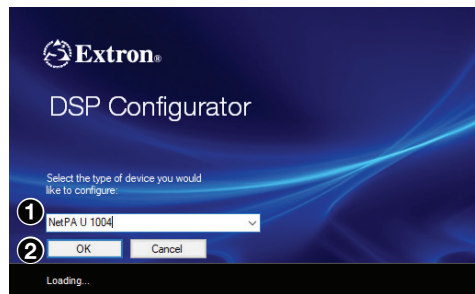

Figure 76. Selecting a Device to be Added
3. From the DSP Configurator splash screen drop-down, select the device to be added to Device Manager (see figure 76, ①).